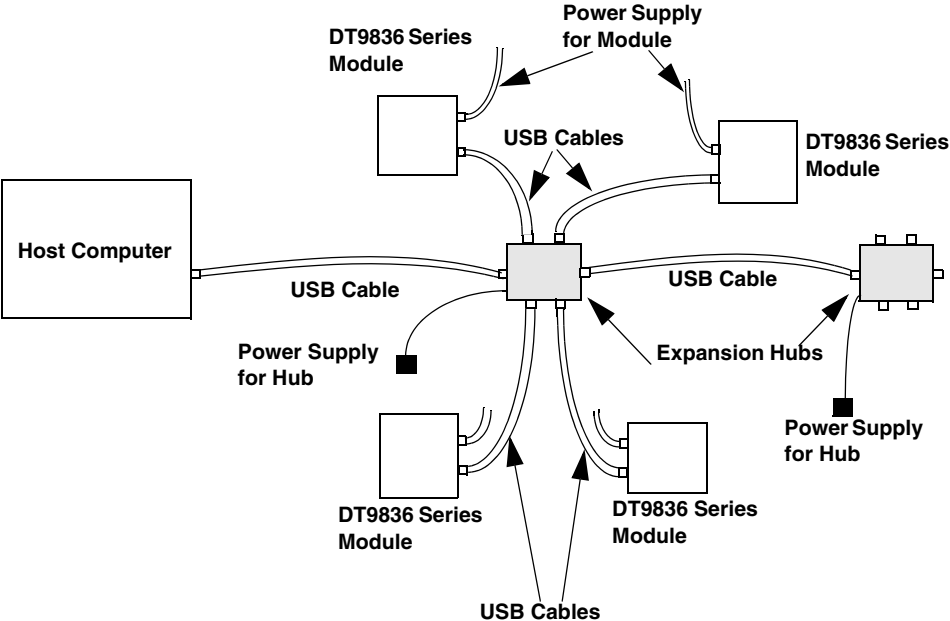

Figure 4: Attaching Multiple Modules Using Expansion Hubs
6. Repeat these steps until you have attached the number of expansion hubs (up to five) and modules (up to four per hub) that you require. Refer to Figure 4.